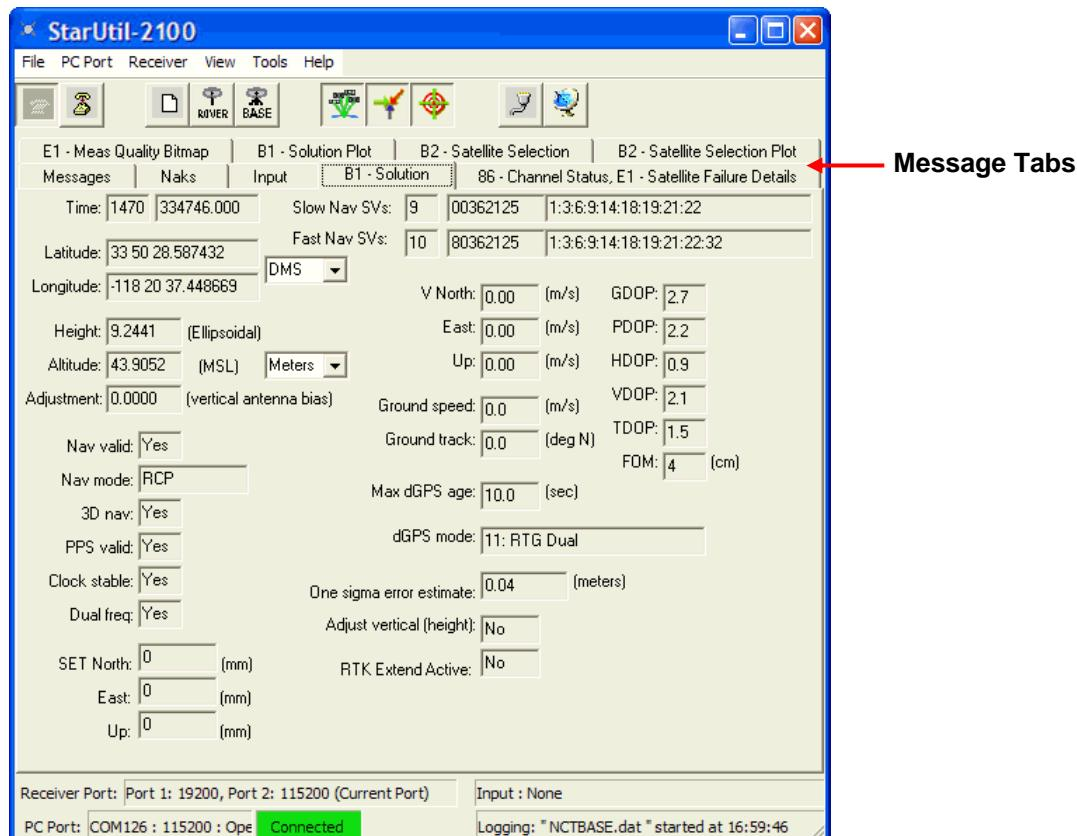

Figure 92: Message Tabs
- ✓ Click a message on the *View* menu. A tab for the message opens (see Figure 92).